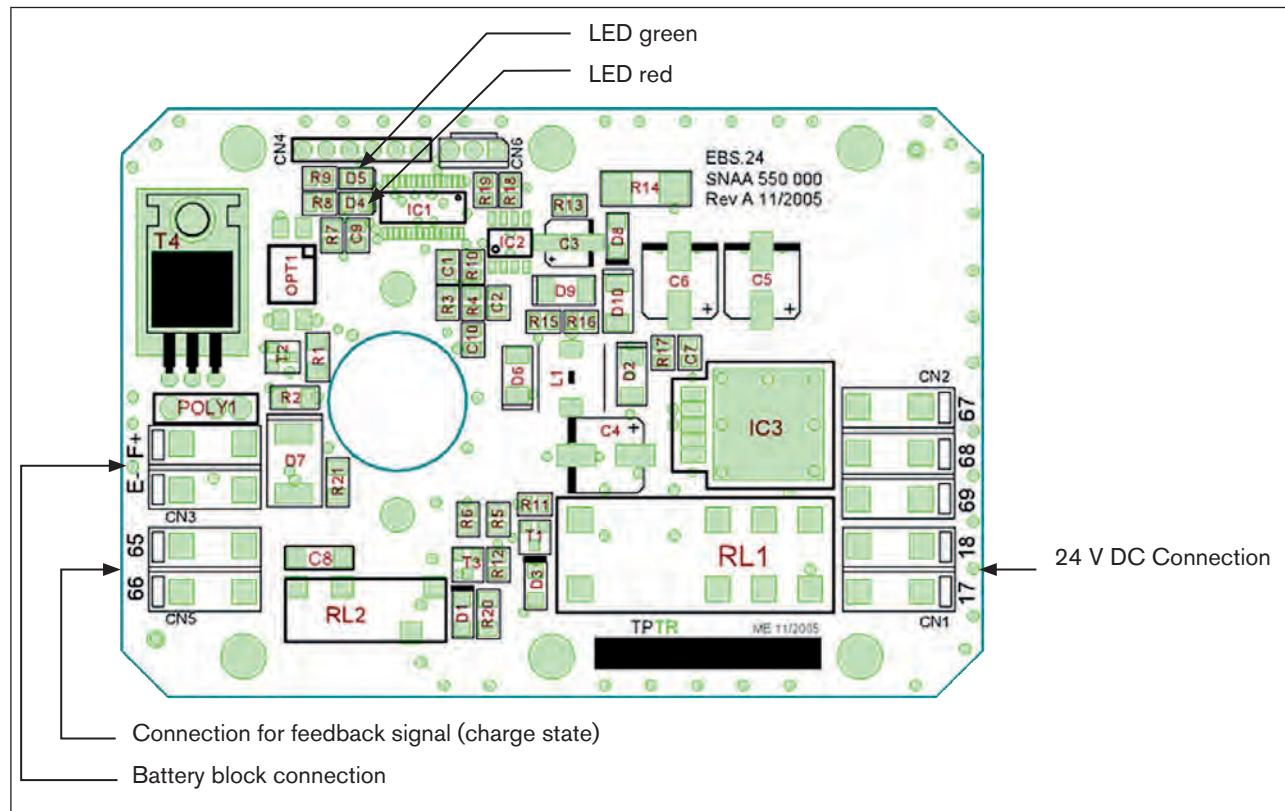

Figure 28: Illustration: Electronic printed circuit board
- 2.terminal 17(see "Figure 28: Illustration: Electronic printed circuit board").